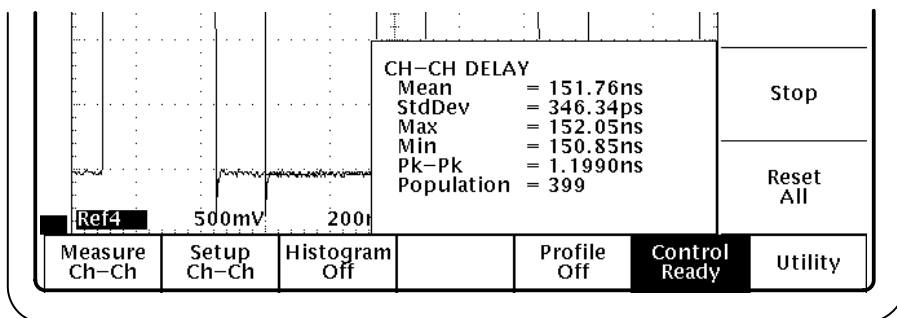

Figure 22: Ch-Ch Delay lesson: Statistics readout
5. Wait for the calculations to complete. Figure 22 shows the Statistics readout.